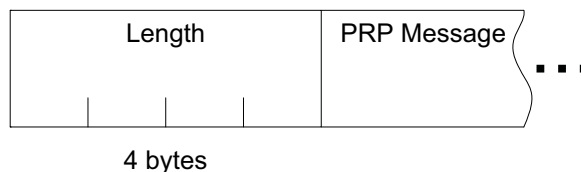

Figure 3-6:
| BAR 5 + 0x00 | This 1,024 word buffer holds the PRP message for both outgoing and incoming PRP messages using the format shown in Figure 3-6. |
Figure 3-6 shows the format of the PRP/PCI packet that should be loaded into, or read from, BAR 5. The first four bytes contain a length field which holds the length, in bytes, of the PRP message (PRP header and message body). The PRP header and message body is loaded beginning directly after the length field.
- The host PC writes a PRP/PCI packet using the format detailed in Figure 3-6 to the buffer beginning at BAR 5.